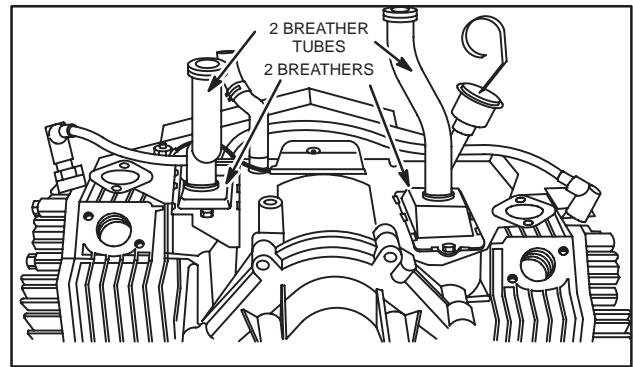

Fig. 6 – Horizontal Crankshaft Models Before Date Code 91080000
Horizontal crankshaft twin cylinder engines manufactured before 91080000 have a breather valve in each cover assembly and two (2) breather tubes, Fig. 6.
Before tappet and breather valve assemblies can be removed for inspection, the air cleaner, carburetor and intake manifold must be removed. See Section 3. On horizontal crankshaft engines with two breathers, it is necessary to remove the dipstick tube before the air guide can be removed from #2 cylinder, Fig. 6.